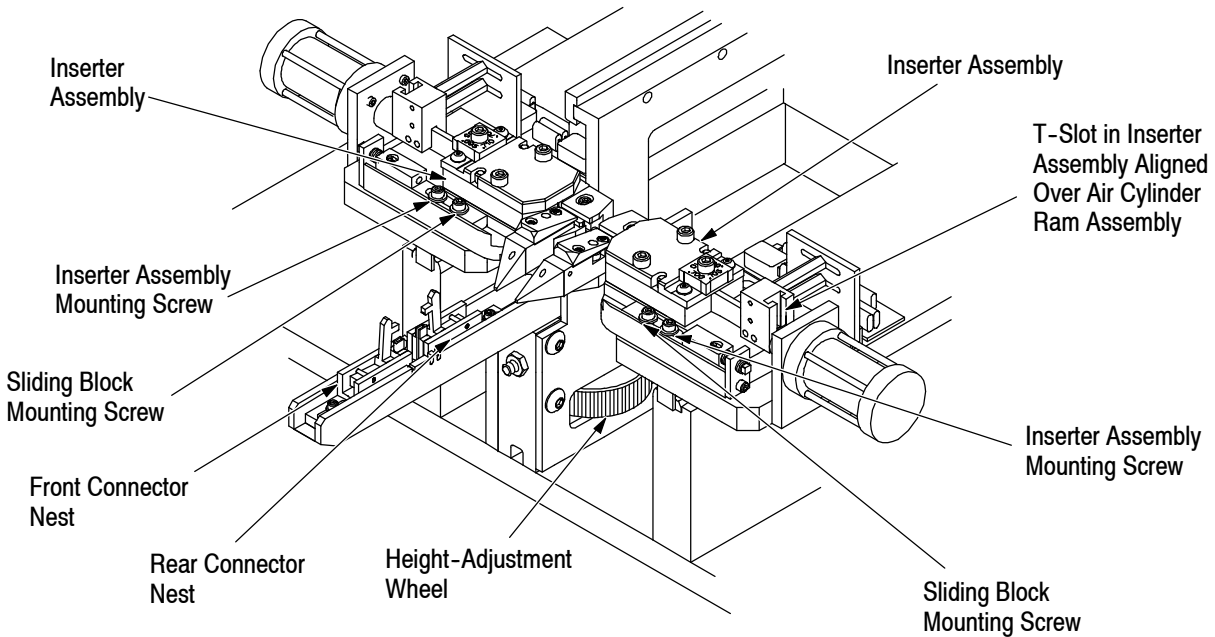

Figure 3
- Using a 5/32-in. hex wrench, loosen the two inserter assembly mounting screws. See Figure 3.
4. Loosen the sliding block mounting screws shown in Figure 3.